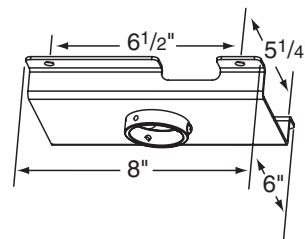
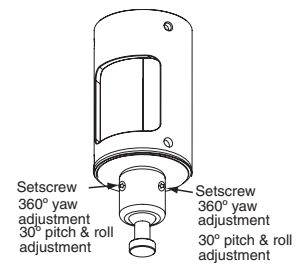

Figure 2
Figure 3
- ⑤ Use mounting plate to mark ceiling (see Fig. 2).
- ⑥ If appropriate, run wiring down through pipe and out through opening in Bracket Adapter.
- ⑦ Attach plate to ceiling. If using optional Angled Mounting Plate, attach Ceiling Mounting Plate to Angled Mounting Plate using 1/4"-20 x 5/8" long hex head screws (provided), then attach Angled Ceiling Mounting Plate to ceiling (hardware for ceiling attachment not included).
- ⑧ Install Universal Projector Bracket on projector if applicable (see separate instructions). Then, attach bracket and projector to Accuset ball joint. Adjust as necessary (see Fig. 3).